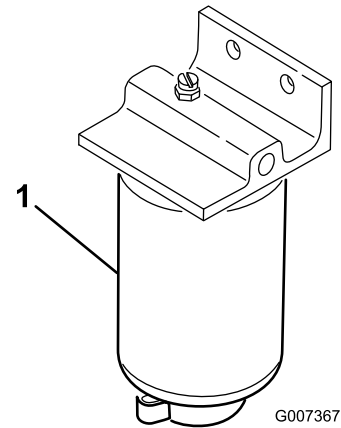

Figure 41
1. Place a clean container under the fuel filter (Figure 41).
2. Clean the area where the filter canister mounts (Figure 41).